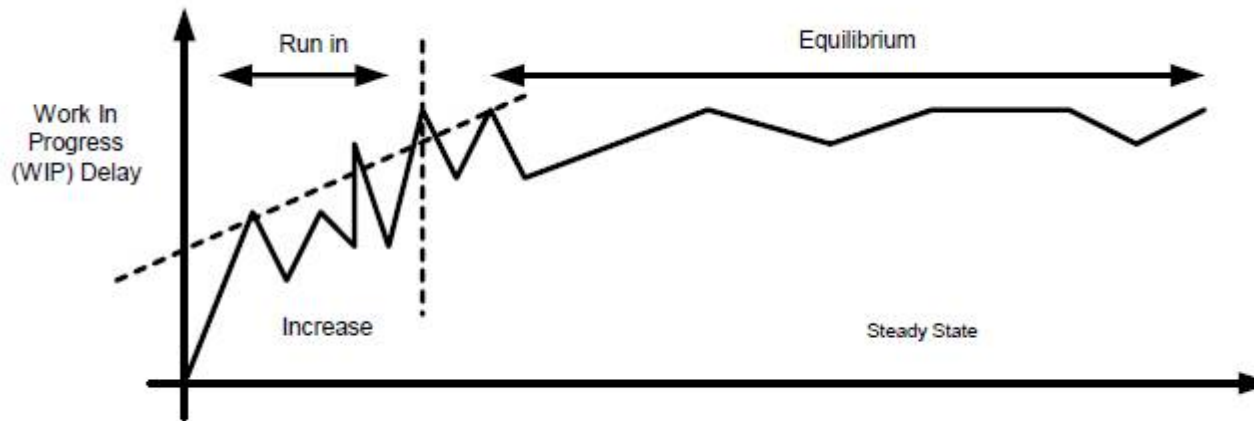

Figure 1. The two key phases of a simulation run
- A simulation run typically starts in the empty and idle state. The run is therefore characterized by a "run-in" phase followed by a "steady state" phase, see Figure 1. The run-in phase is generally ignored and is only used for investigating the effects of transient conditions such as starting up a new factory or performing radical changes within an existing facility.